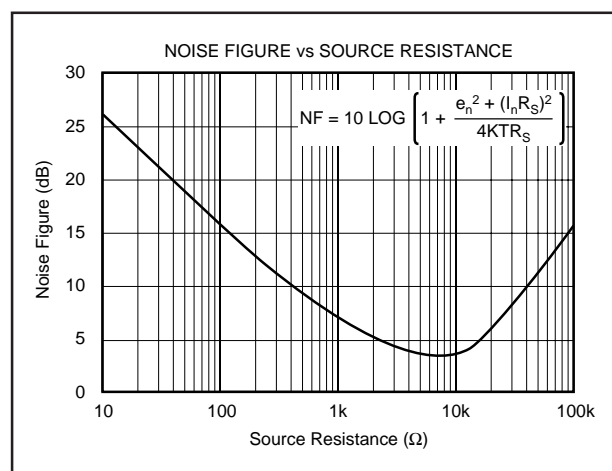

FIGURE 6. Noise Figure vs Source Resistance.
The OPA650 voltage noise spectral density is specified in the Typical Performance Curves. For RF applications, however, Noise Figure (NF) is often the preferred noise specification since it allows system noise performance to be more easily calculated. The OPA650's Noise Figure vs Source Resistance is shown in Figure 6.